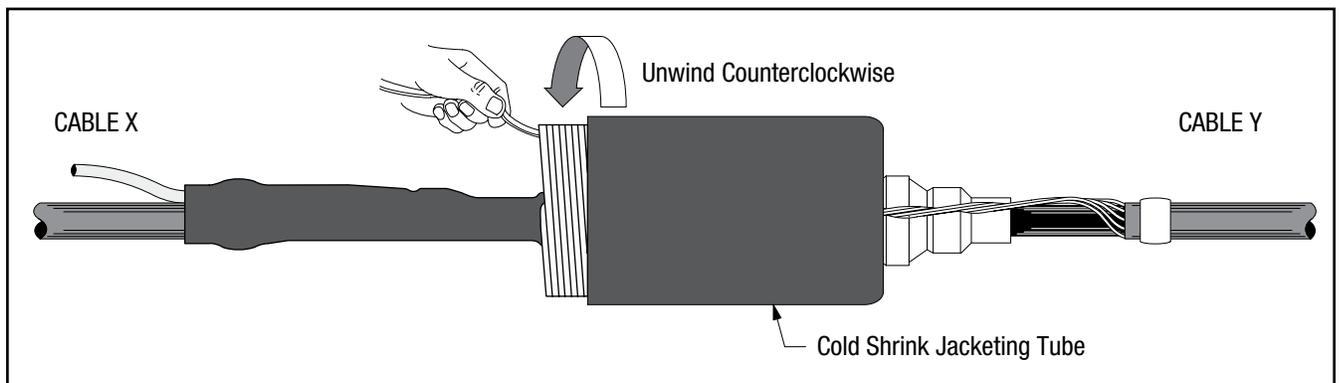

Figure 9
- 4.3 Continue to install the cold shrink tube over the rubber mastic on the other cable by slowly pulling and unwinding the outer core counterclockwise. This portion of the cold shrink tube installs differently than typical cold shrink products in that as the tube shrinks, the end rolls under. The tube may need a slight push to get over the second mastic seal. (Figure 9)